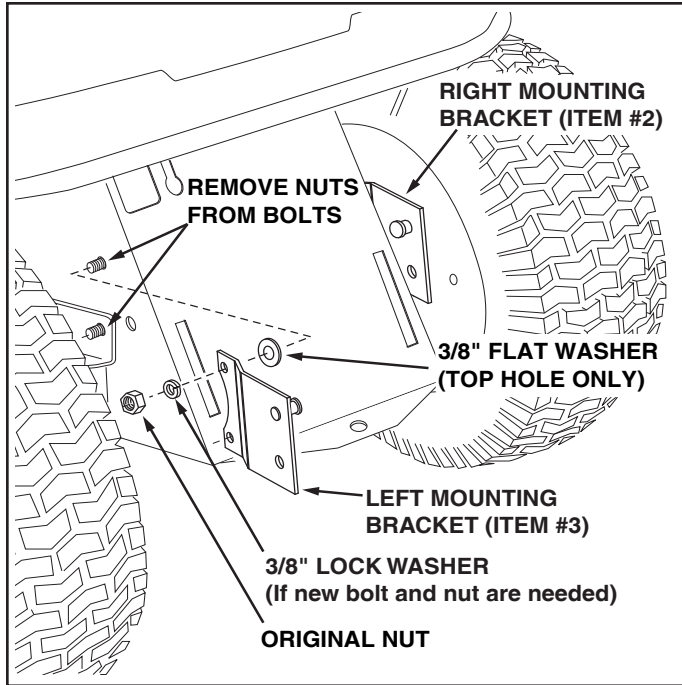

FIGURE 4
- Remove the nuts from the two bolts in each side of the tractor, leaving the bolts in place. See figure 4.
- Attach the right and left Mounting Brackets (items 2 and 3) to the bolts using the original nuts and two 3/8" flat washers. The weld pins face inward at the top of the brackets. See figure 4.